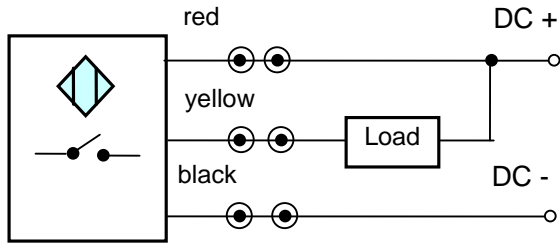

Fig. 1
*1: Option: load connection according to Fig. 1